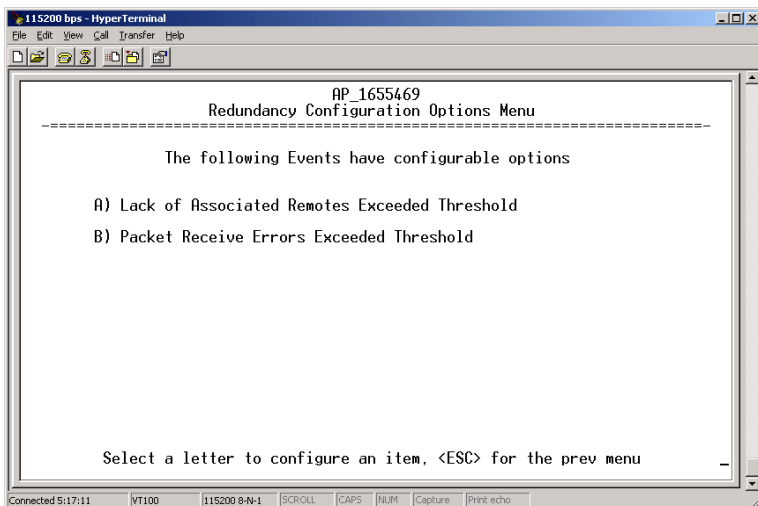

Figure 3-76. Redundancy Configuration Options Menu
- **Redundancy Configuration Options**—This selection opens a submenu (Figure 3-76 on Page 107) where you can set the threshold criteria for declaring an error event.
Use this menu (Figure 3-76) to set the thresholds for the Lack of Associated Remotes and Packet Receive Errors. Selecting either item opens a submenu where you can view or change settings.